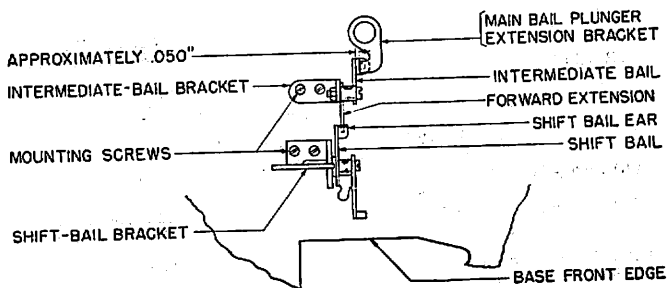

Fig. 31
2.46 **Shift-Bail Bracket:** The front surface should be parallel to the front edge of the recessed portion of the base. **Fig. 31**
2.47 **Intermediate bail forward extension** should engage the center of the ear on the shift bail. **Fig. 31**